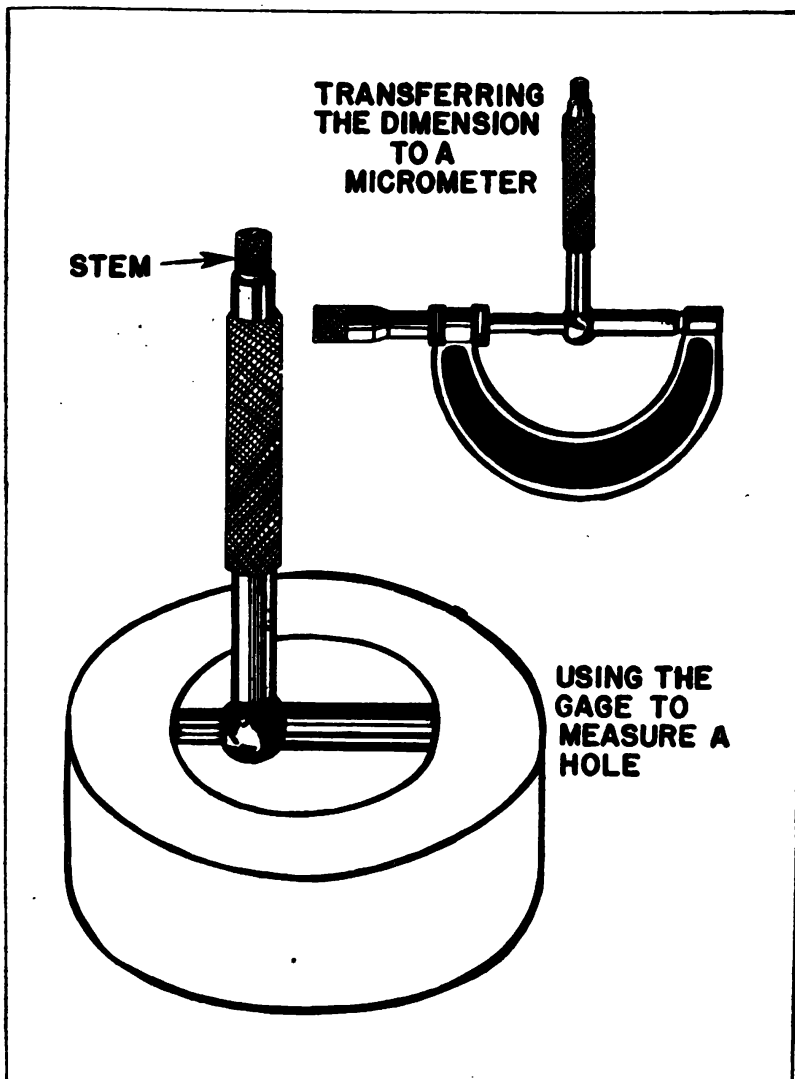

FIGURE 106.—Telescoping gage.
(2) Another method commonly used for measuring smaller work, where an inside micrometer will not fit conveniently, is to use a telescoping gage (fig. 106). The telescoping gage should be adjusted in